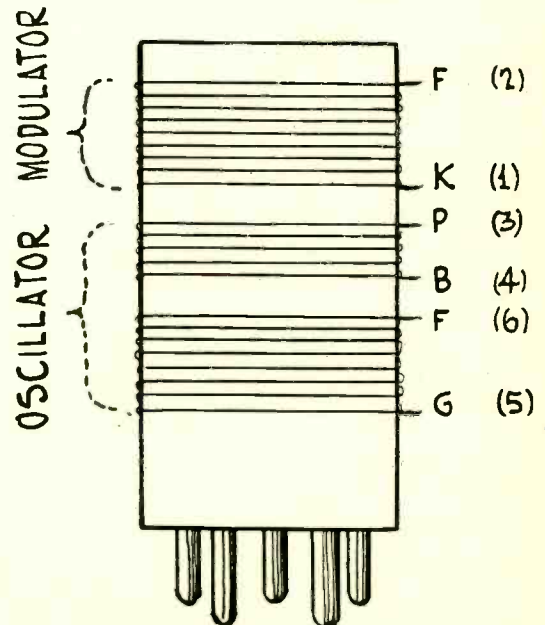

Fig. 2
tube. The leads must be connected just so or there will be no oscillation. There are four ways of connecting the four leads, but only two of them are correct. The proper way of connecting the windings of an oscillator coil to the oscillator tube is shown in Fig. 2. Note that the two windings of the oscillator section are in the same direction, that of a right handed screw. If (3) is connected to the plate of the tube, (4) to B plus; (5) to the grid and (6) to the filament or cathode or ground the coil is connected properly for oscillation. Also, if both windings are reversed the connections are proper. But if only one winding is reversed, there will be no oscillation.
Incidentally, the coil in Fig. 2 illustrates a method of coupling the oscillator and the modulator circuits that have proved effective. The modulator tuned coil is wound on the same form as the two oscillator windings, with a considerable separation between the two tuned windings. The small mutual inductance between them is sufficient to provide the proper amount of coupling between the two circuits.
**T**HE plan for drilling the subpanel of the DX-4, with sockets arranged in a row at the rear, is shown in Fig. 1. This model is an all-wave converter, tuning from 10 to 600 meters, with any receiver, and has the B supply built in, so that convenience and performance are served abundantly. The front panel dimensions are given in Fig. 2, while the circuit diagram is printed as Fig. 3.